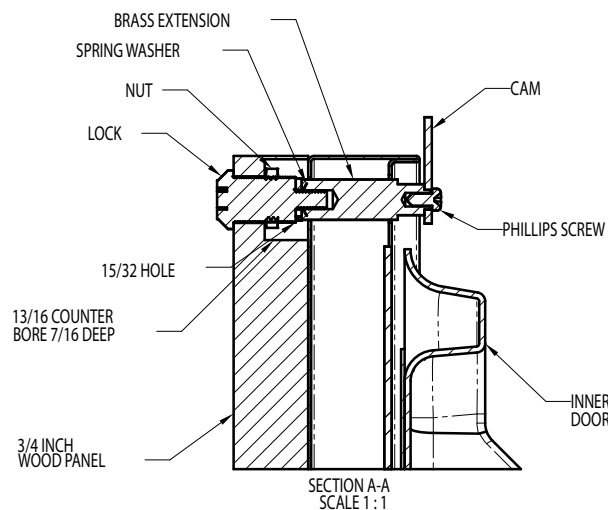

Figure 10
Locate and mark with a pencil the location of the lock hole on the overlay panel, this is the hole in the top corner of the handle side of the door. Remove the clamp and remove the overlay panel from the door. On the backside of the panel where you marked the lock location drill a ¹/₁₆" (20.5mm) diameter counter bore ⁷/₁₆" (11.0mm) deep into the overlay panel. Drill a ¹/₃₂" (12.0mm) diameter hole through the overlay panel centered on the counter bore being careful not to splinter the wood on the face side of the panel. (See Figure 10).
Two (2) lock extensions are supplied with the lock. Use the longer extension for a ³/₄" thick overlay panel and the shorter one for a ⁵/₈" thick panel. Assemble the lock extension, cam stop washer, spring washer, and set screw to the lock as shown in Figure 10 and 11. Install this assembly into the overlay panel and secure with the retaining nut using a 15mm socket. Make sure the key slot in the lock is vertical.